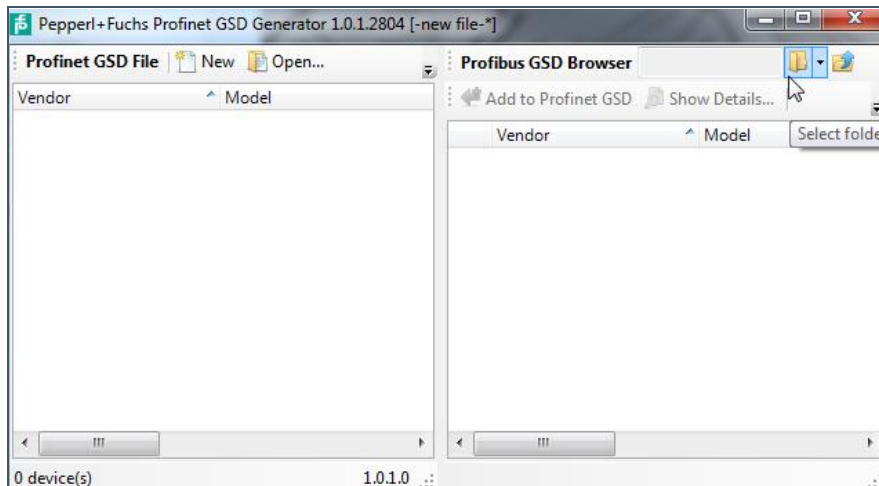

Figure 6: Search for GSD file folder
- 2) Click the icon **Select folder** (see: Figure 6: Search for GSD file folder).